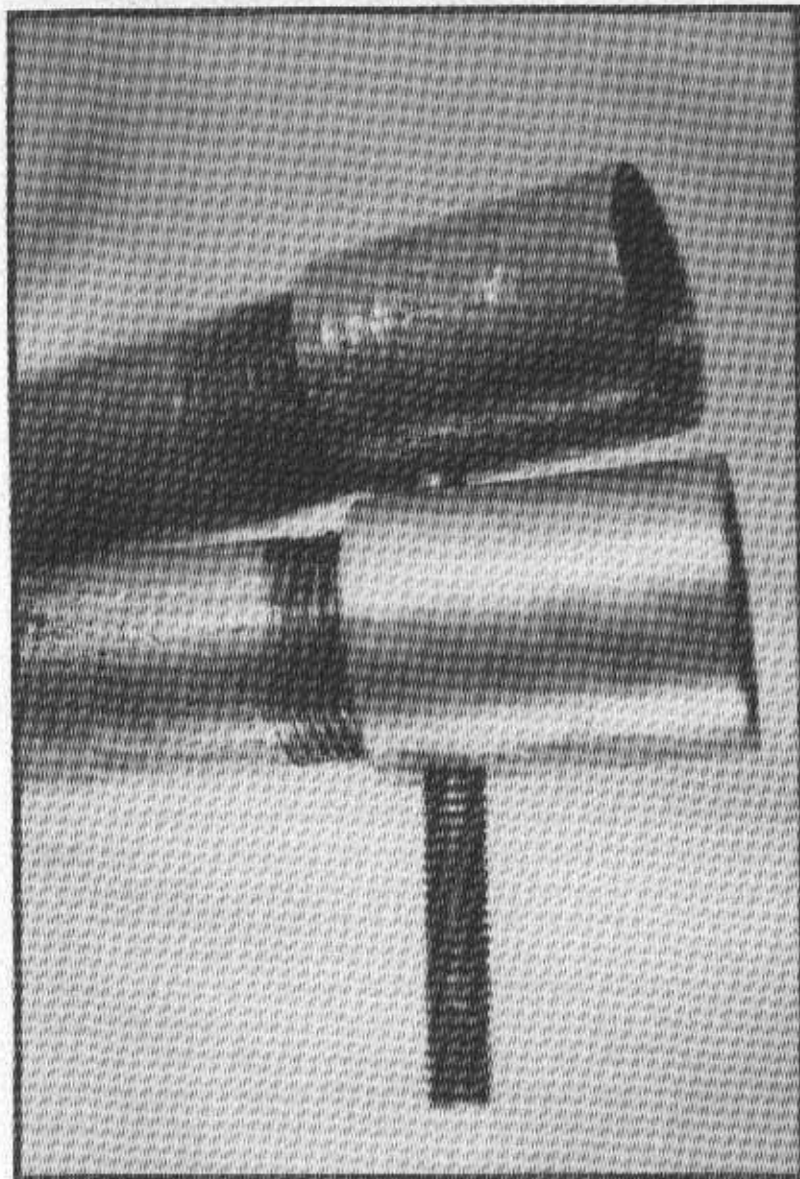

Figure 4-7
11. Assemble the second barrel to the gun as shown in Figure 4-7.